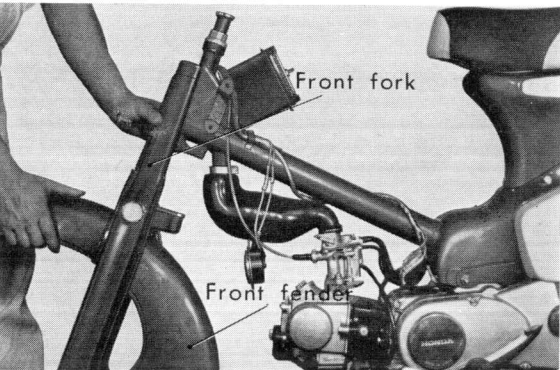

Figure 4-6. Removing front fork
- (1) Remove the steering handle in accordance with section 4.1a.
- (2) Remove the headlight case.
- (3) Remove the front wheel in accordance with section 4.4a.
- (4) Remove the fork top bridge by unscrewing the steering head stem nut and the two 8mm bolts.
- (5) Unscrew the steering head top thread by using a hook spanner and slide the front fork out the bottom, (Fig. 4-6)